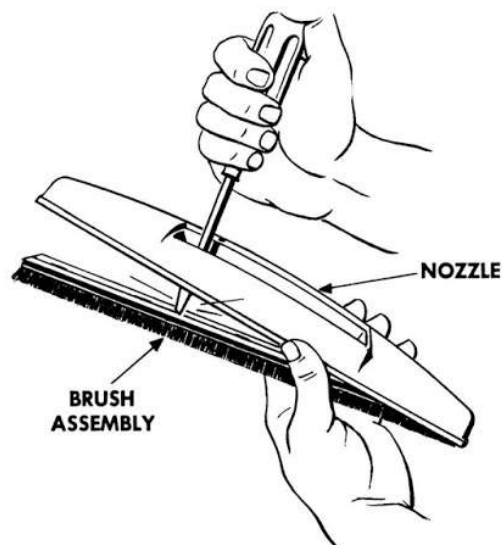

Fig. 9 To Remove Brush Assembly
- a. Remove Nozzle Cap, Suds Control Bar, turn over and remove Six Screws, insert screw driver through nozzle cap opening and tap Brush Back to remove. *See Fig. 9.*